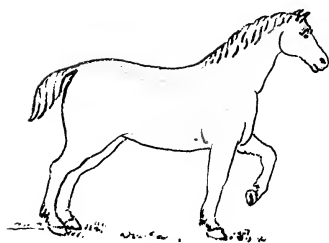

Fig. 2.
In considering the question of a force acting on a particle there are three things to be borne in mind:—(1) the point of application (the point of attachment of the trace to the hame); (2) the direction; and (3) the magnitude of the force. In our case the last of these three things is the power of the horse, and the magnitude of this power we know.\* The shoulder is the point at which the greatest power is obtained without impeding the action of any of its limbs (see Fig. 2, Plate I.), and Major Francis Dwyer, in his "Bits and Bridles, Draught and Harness," tells us that